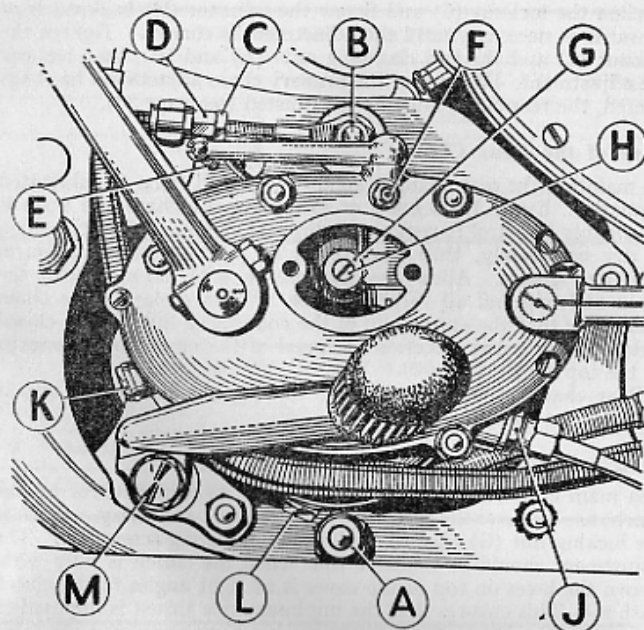

Fig. 10. Clutch and Front Chain Adjustment.
Adjustment of the primary chain is effected by pivoting the gearbox about its lower support bolt. The chain is correctly adjusted when it has $\frac{1}{2}$ in. total up and down movement in the centre of the chain span and at its tightest point. This can be gauged by removing the primary chaincase inspection cover and moving the chain up and down. Make sure that the chain is at its tightest spot. If the chain requires adjustment slacken the two nuts (A) and (B) Fig. 10.
The main clutch adjustment is inside the inspection cover on the gearbox. Remove the two screws and lift the cover away. Slacken the locking nut (G) Fig. 10, to free the adjusting screw (H). The adjustment should be made so that when the clutch is fully withdrawn the lever on top of the cover is at right angles to the clutch push rod. This ensures that the minimum side thrust is imposed on the push rod. When this adjustment has been completed the cable should be adjusted by means of the adjuster at (E) until it has approximately $\frac{1}{8}$ in. free play at the handlebar end.
When topping up with oil, remove the level plug at (K) Fig. 10 and add oil through the clutch inspection aperture. The oil level must not be above the plug hole, and if the gearbox is over-filled the surplus must be allowed to drain away before the plug is replaced. Removal of the plug (L) allows all the oil contained in the gearbox to drain out. Whenever possible the gearbox should be drained immediately after a run when the oil is warm. A mineral type of oil should be used, of the same grade as that specified for the engine (see page 27). The gearbox capacity is 14 fluid ozs. (398 c.c.).